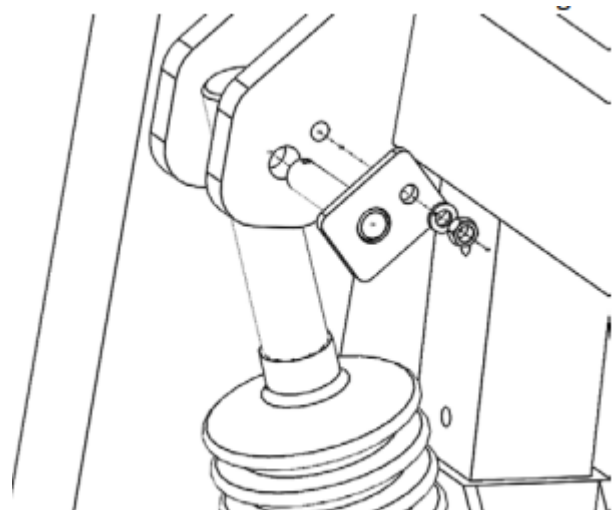

Figure 15
2. Insert one (1) 1" Cylinder Pin into the cylinder mounting plate through the Hydraulic Cylinder upper mounting hole as shown in Figure 15.
3. From the inside of the mounting plate, insert one (1) 3/8" Hex Bolt through the mounting plate and the hole on the Cylinder Pin shown in Figure 15.
4. Attach one (1) 3/8" Lock Washer and one (1) 3/8" Hex Nut to the protruding end of the Hex Bolt and fasten with appropriate wrench until secure as shown in Figure 15.
5. Repeat these steps for the remaining seven (7) Hydraulic Cylinders.